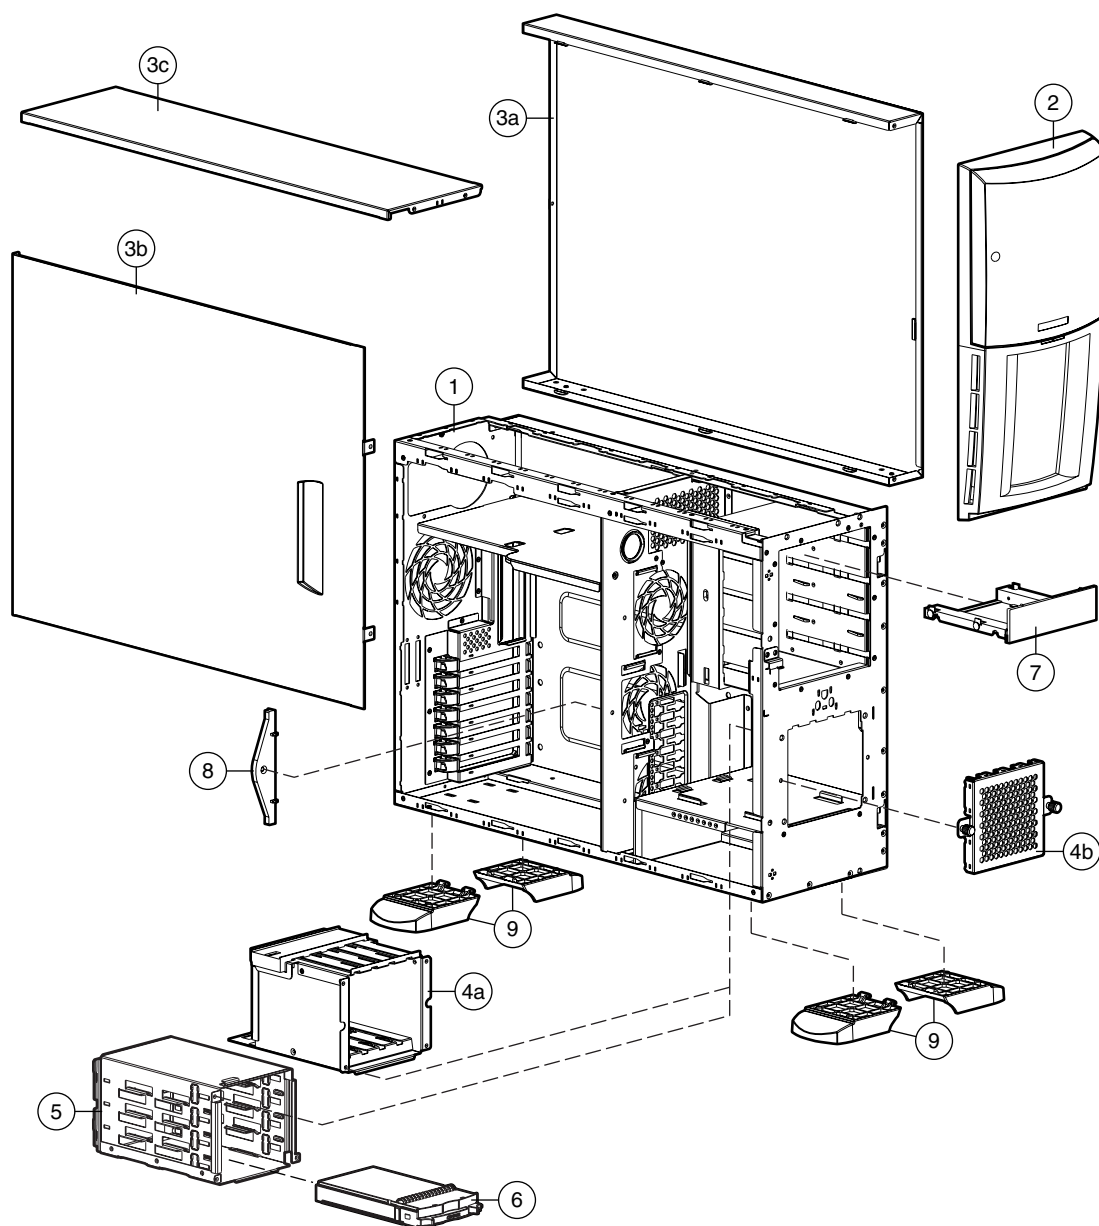

Figure 1-1. Mechanical parts exploded view
** Also referenced in Figure 1-1 and Table 1-1